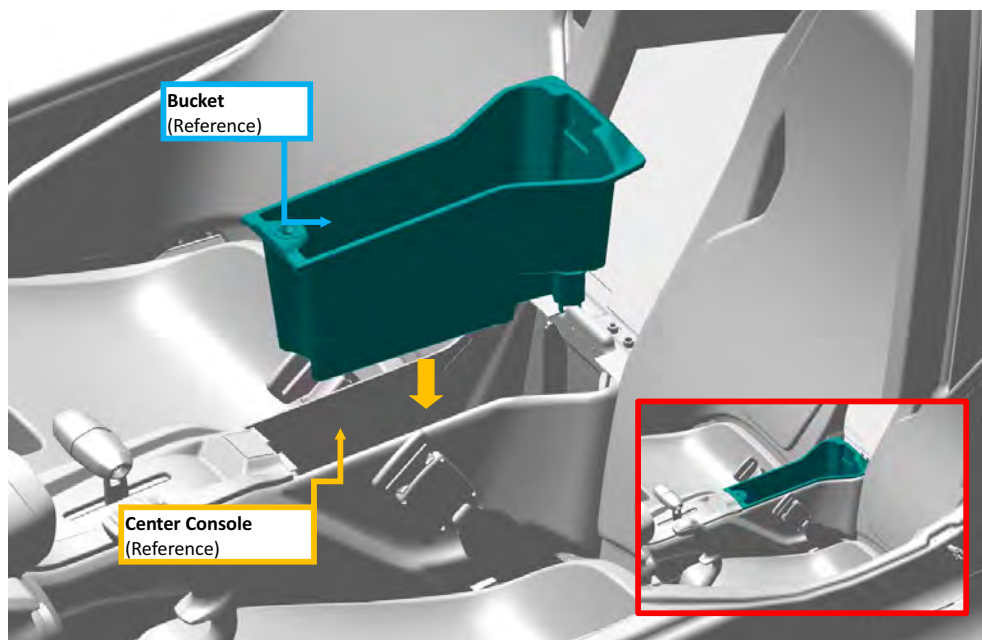

FIGURE 8-5
3. Lift the center console bucket, disconnect the electrical connections and remove. Label the wires for later installation. The connections are: cigarette lighter connectors – T9117(+) and T9119(-); USB power connectors – T9120(-) and T9116 (+); Aux audio in jack – D9063P. See Figure 8-5.
2. Install center console bucket. See Figure 8-5.